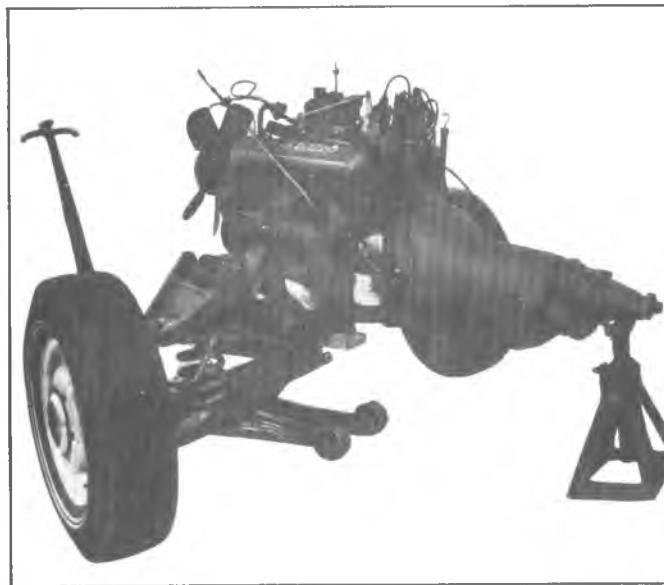

Fig. 6V—Supporting Power Train
26. Roll the power train and suspension assembly to the work area and position jack stand under transmission extension (Fig. 6V)-remove floor jack.